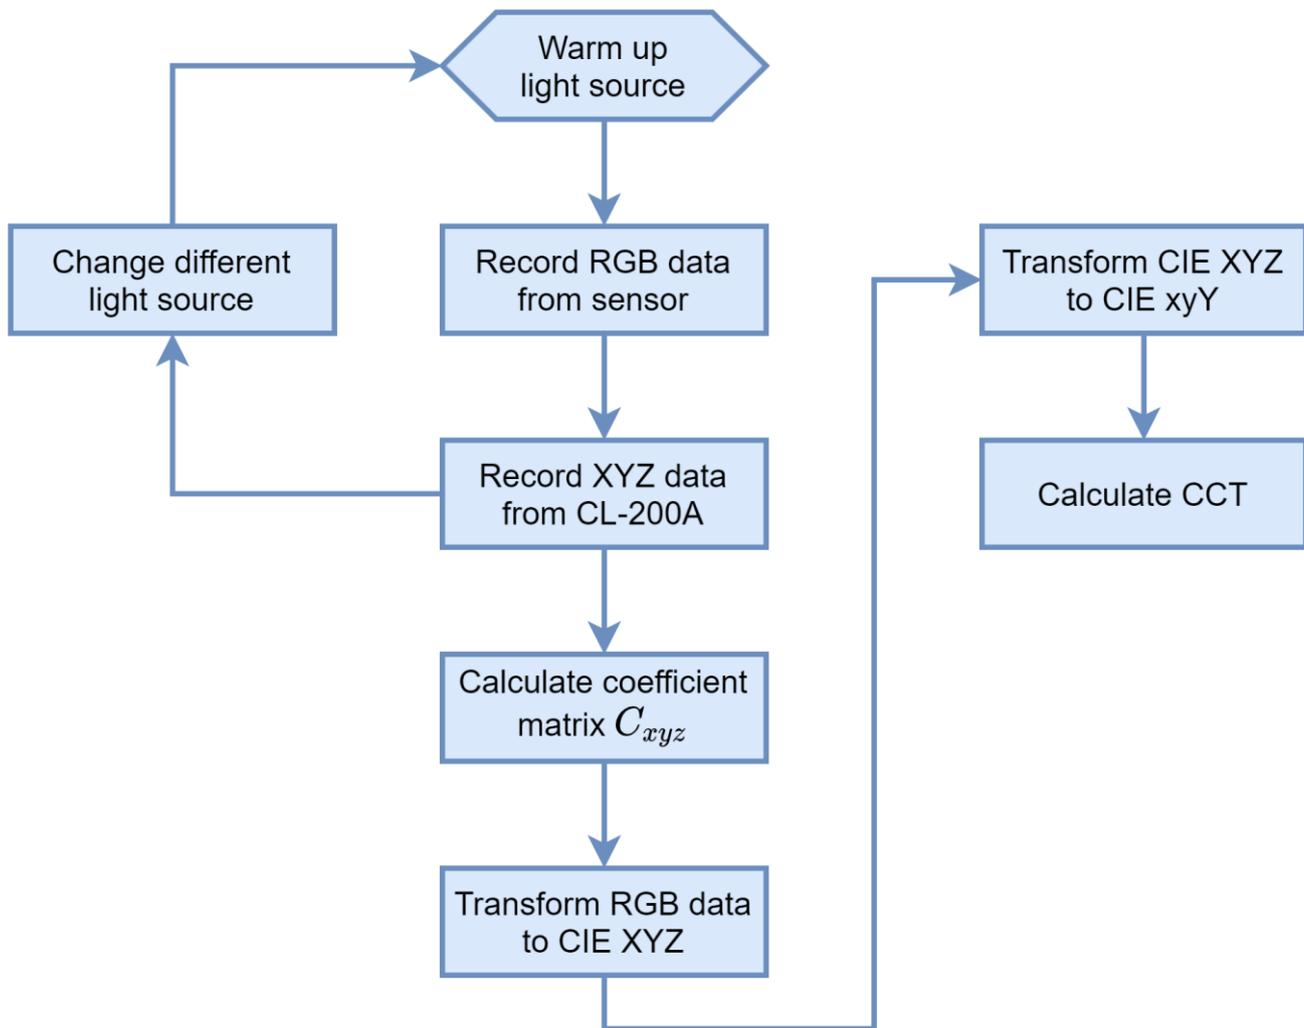

Figure 7. CLS-16D24-44-DF8/TR8 data and CIE 1931 conversion flow chart
4. Calculate the coefficient matrix C_{XYZ} according to formula (1).
5. After C_{XYZ} is obtained, the RGB data read can be converted into CIE 1931 XYZ through formula (2).
6. CIE 1931 Yxy can be calculated through formula (3).
7. The color temperature can be calculated by formula (4).
8. This conversion process can also refer to the process in Figure 7.